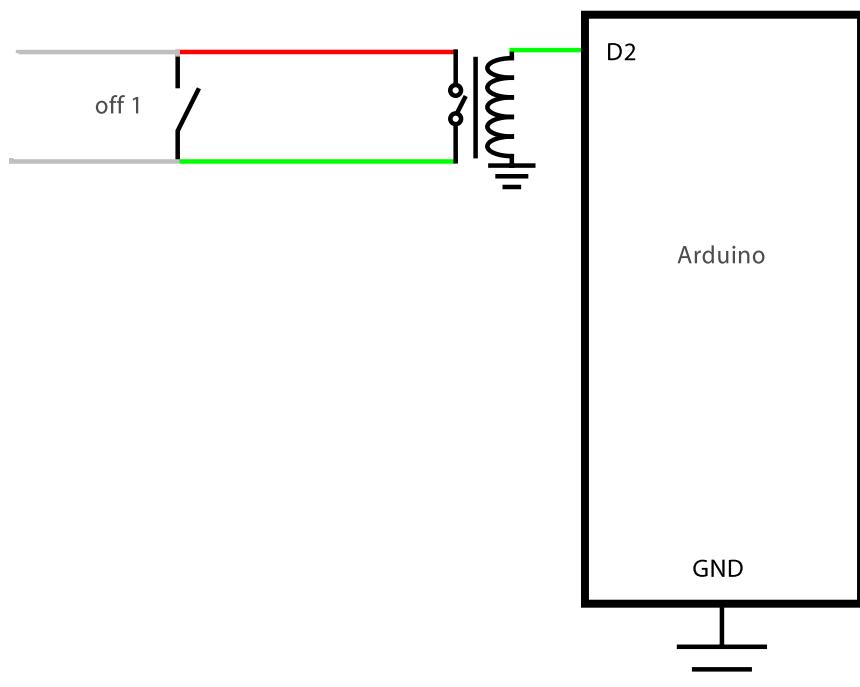
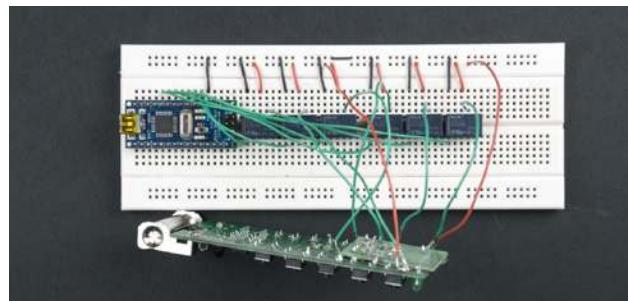
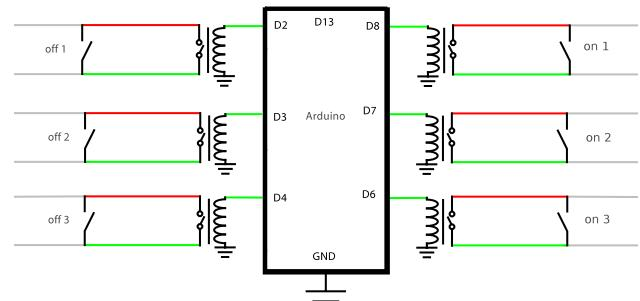

Figure 7-18. Circuit diagram
Figure 7-20. Six relays connected to control six buttons
Figure 7-21. Circuit diagram
1. Insert the Arduino into the prototyping breadboard. Insert the relay into the board so that the white stripe is on the left, to the right of the Arduino, as shown in Figure 7-18. If your relay does not have a stripe, consult its datasheet (usually available online from the vendor where you purchased it) to determine the pin orientation.
4. The Arduino ground connects to each relay pin 1. Because there is a common GND wire from the Arduino to the relay (pin 1), you can connect the Arduino to the prototyping breadboard's top horizontal ground row and connect the relays to it with short jumper wires, as shown in Figure 7-20. Note that we've moved the connections to the remote control from the bottom half of the board—as shown back in Figure 7-18—to the top; this is possible because the relay has another set of pins across from the ones we used back in Figure 7-18. Figure 7-21 shows the circuit diagram.
Note the black jumper in the top middle of Figure 7-20. On most full-size breadboards, the top and bottom horizontal rows are continuous across them all. If your prototyping board has a gap like the breadboard shown in the figure, you might need to add a jumper as we did here.